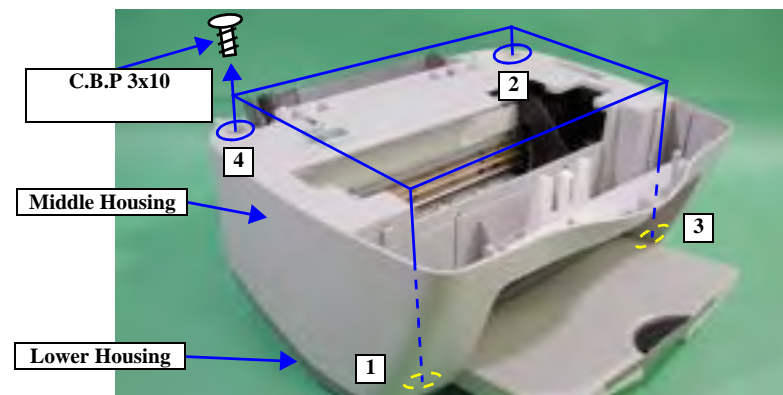

Figure 4-29. Middle Housing Removal 1
- When installing the Middle Housing, the screws should be installed in the order shown in Figure 4-29.